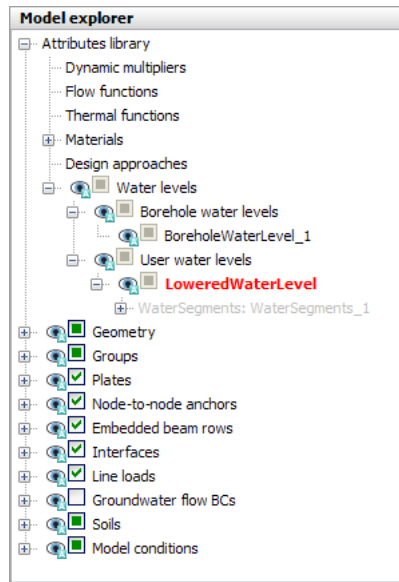

Figure 91: Water levels in the Model explorer
8. In the **Model explorer** expand the **User water levels** subtree. Click on **UserWaterLevel\_1** and type LoweredWaterLevel1 to rename the water level created in the **Flow conditions** mode as shown in Figure 91 (on page 116).